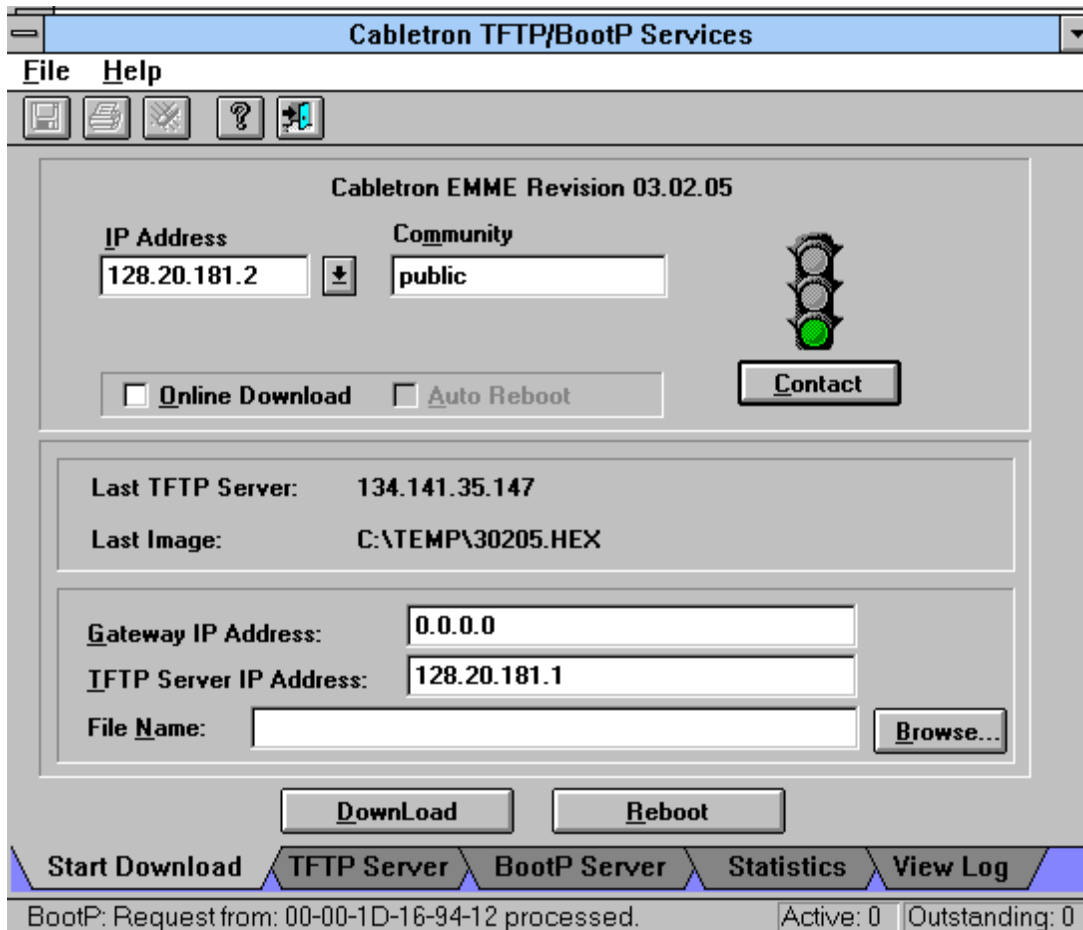

Figure 3-4. TFTP/BootP Services, Start Download Screen
1. Click on the TFTP tool bar icon or click on utilities, then the tftp/bootp pulldown menu. You must have an icon selected or this will be grayed out. The Start Download screen is displayed (Figure 3-4).